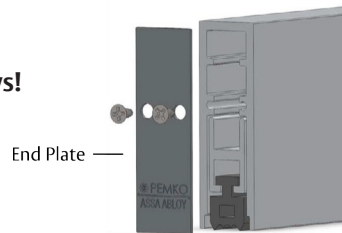

Figure 4 - Properly Installed End Plate
3. Install the end plate opposite the plunger, with the “This Side In” sticker towards the ADB, using the end plate screws as shown in Figure 4.